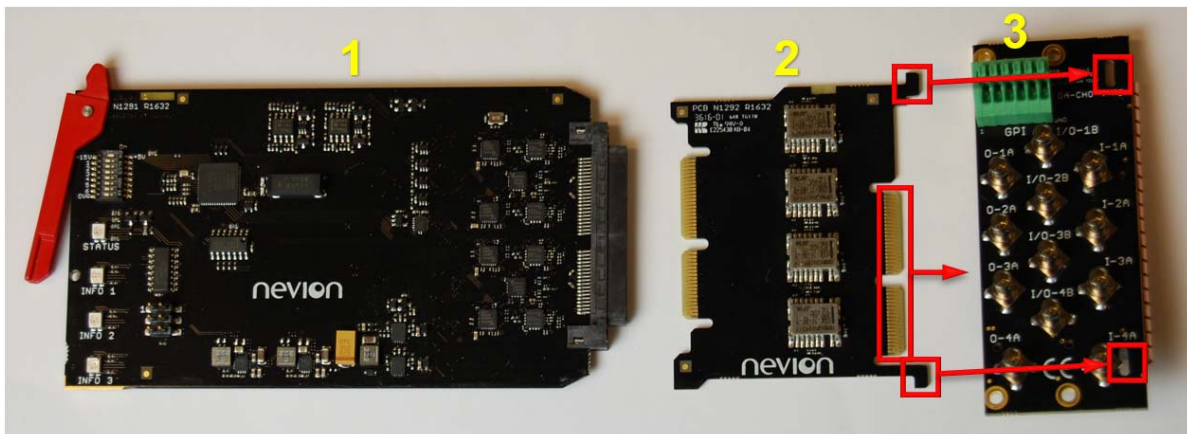

Figure 15: The three main parts of the product
Product consists of three main parts as seen in Figure 15.
1. Connect connector module (3, Figure 15) to relay module (2, Figure 15) and make sure the connectors are completely mated with the two guide pins located on top/bottom as seen in Figure 15.